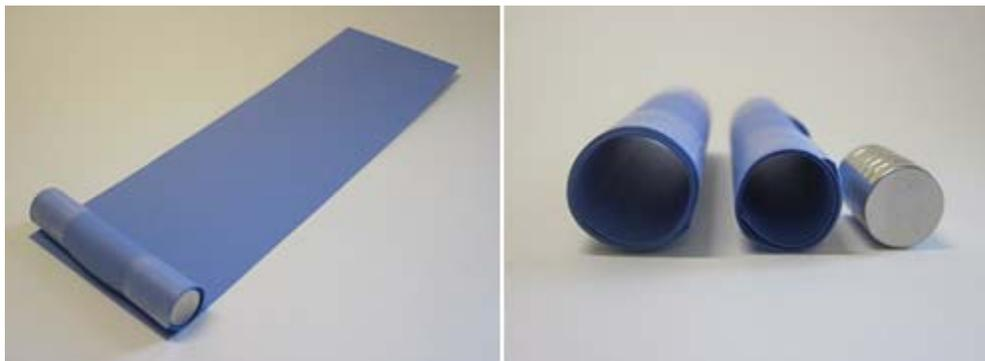

Figure 4. Using the first tube as a guide, roll a second piece of card stock into a slightly larger tube.
- b. Using your first tube as a guide, roll the second piece of card stock into a tube, as shown in Figure 4.
- c. Use tape to hold the tube in place, and remove the inner tube from the outer tube, as shown in Figure 4.